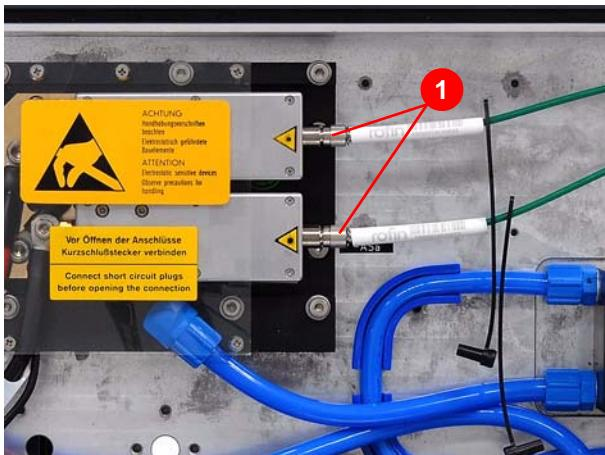

Figure 7.94 Disconnecting the glass fiber line from the diode module
2. Disconnect the glass fiber line from the diode module (1) (Figure 7.94).